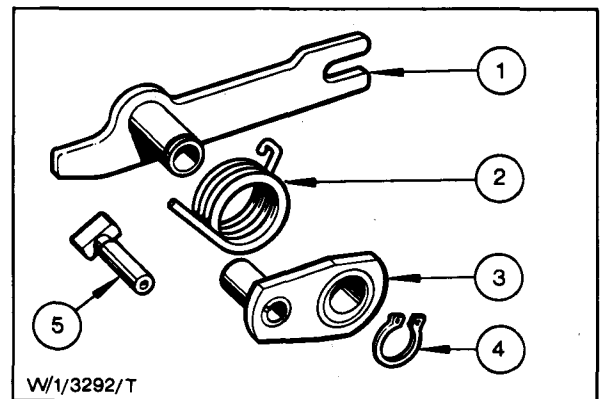

Fig. 50 - Rocking Lever Assembly
59. Turbocharged pumps: Dismantle the rocking lever assembly. Remove the circlip, then push the two links slightly against each other. Pull the links apart until the short arm on the top link is clear of the bush on the bottom link. Release the tension, disengage the spring hooks and separate the components (Fig. 50).